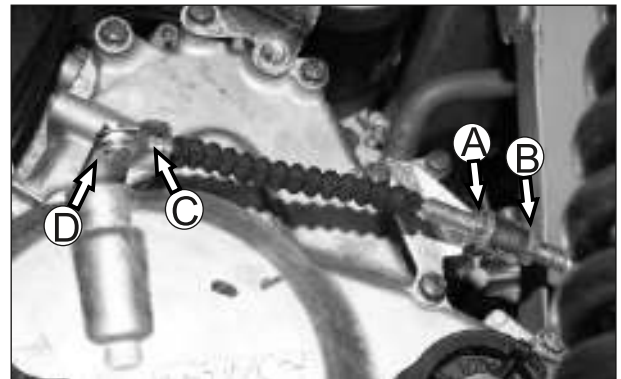

Fig. 5.8
- Hold the adjuster nut (B) with a spanner. (Fig. 5.8)
- Loosen the lock nut (A) from cable assembly clutch adjuster using spanner (Fig. 5.8)
- Disconnect the cable inner clutch from rod complete clutch release (C) and disconnect it from Bracket abutment clutch (D). (Fig. 5.8)